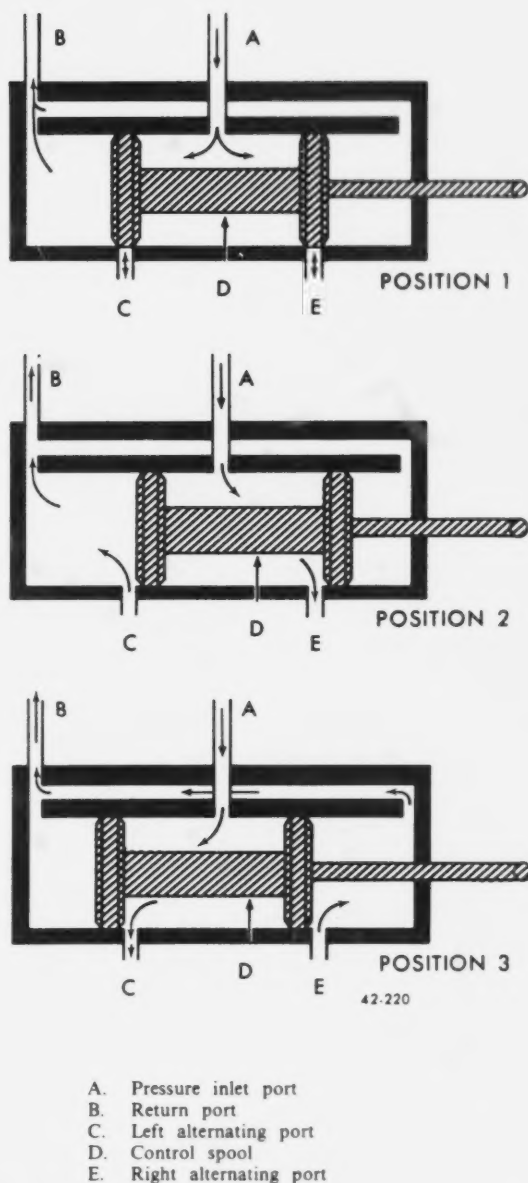

Figure 4-4. Manual slide selector valve.
Figure 4-4, position 1, shows the metering valve in the neutral position. Fluid under pressure fills the space between the ends of the sliding spool (D). Because the alternating ports (C and E) are closed, the fluid is trapped. Position 2 shows the slide (D) moved to the right. This allows pressure from the pressure port (A) to enter the right-hand alternating line (E). The other alternating port (C) is connected to the return manifold through the return port (B). Position 3 shows the slide (D) moved to the left. This allows pressure to enter the left-hand alternating line (C). The other alternating line (E) now connects to the return port (B) through the drilled passageway across the top.